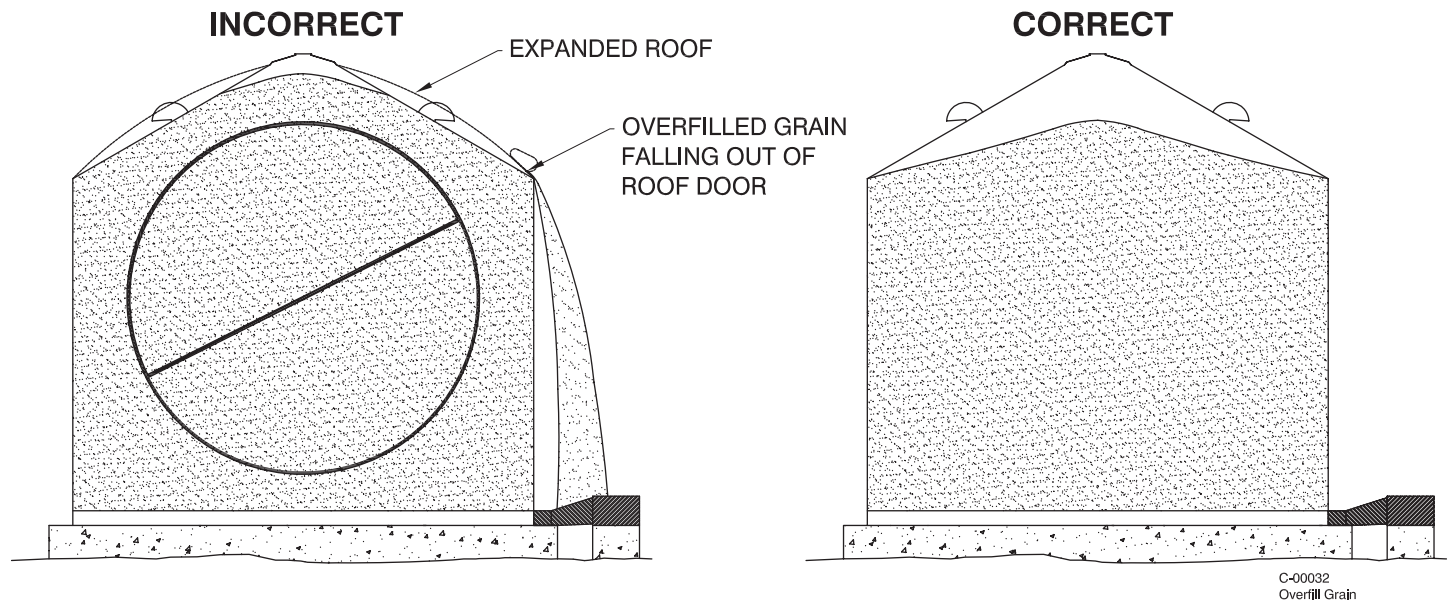

Figure 18. Bin overfilled with grain.
4.7.7. Filling grain up against roof sheets may cause the roof to expand outward and fail. Opening a roof door when a the bin is overfilled will cause grain to spill out, possibly resulting in someone being caught in grain flow (see Figure 18). Check for overfilling by tapping against roof door cover before opening. A hollow sound means it's acceptable to open the door. A solid sound means grain is against it. **DO NOT OPEN roof door when there is grain against it.** Unload the bin to get grain away from the roof. Be certain ladder cages and platform handrails are in place and correctly installed. See the Spout/Chute Lengths section of this manual.